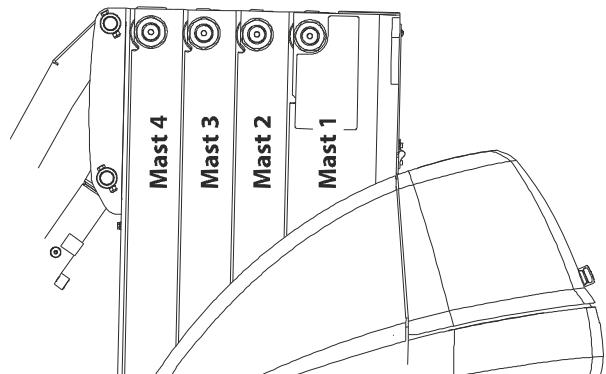

Figure 5-21. Top Rollers Mast Configuration
1. Ensure mast is fully lowered prior to completing top roller setting procedure. Refer to figure 5-21 for mast configuration/terminology.